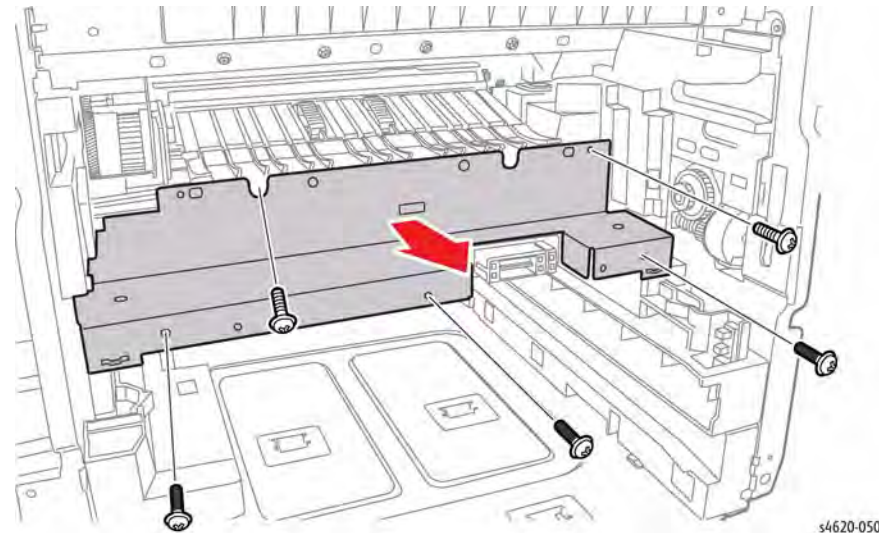

Figure 1 Remove the bottom fuser bracket
9. Remove 5 screws (2 plastic, 3 metal) that secure the bottom fuser bracket to the chassis, Figure 1.